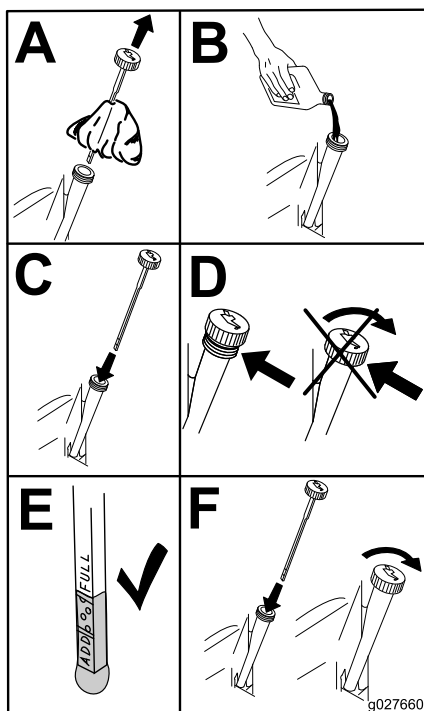

Figure 49
4. Slowly pour approximately 80% of the specified oil into the filler tube and slowly add the additional oil to bring it to the **Full** mark (Figure 49).